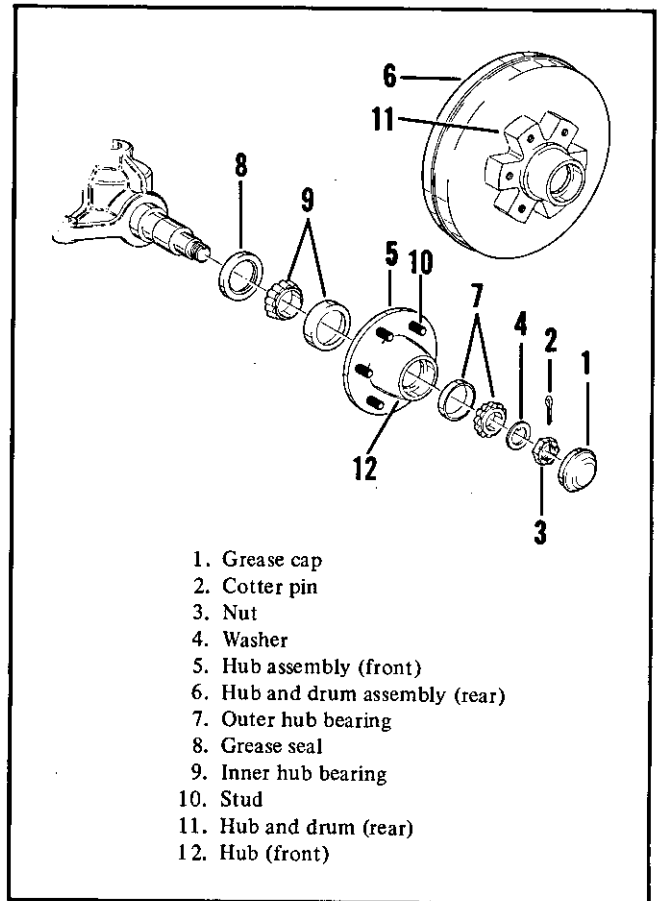

Figure 5-40. Wheel hub and brake drum
5-55. WHEEL HUB AND BRAKE DRUM (Figure 5-40). Remove wheel assembly and tire (para 5-54). Pry off grease cap (1), remove cotter pin (2), spindle nut (3), and washer (4). Pull hub assembly (5) off front spindle or hub and drum assembly (6) off rear spindle. Remove outer hub bearing (7), grease seal (8), and inner hub bearing (9) from wheel hub (12) or hub and drum (11). Studs (10) need not be removed from hub (12) unless replacement is necessary. Assemble in the reverse of disassembly.